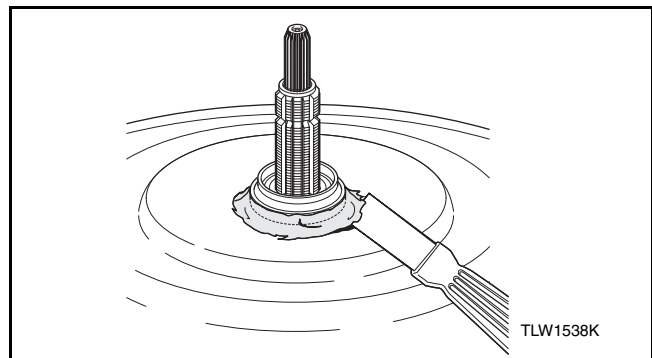

Figure 46
- Using a putty knife, remove remaining sealant from tub surface. Refer to *Figure 46*.